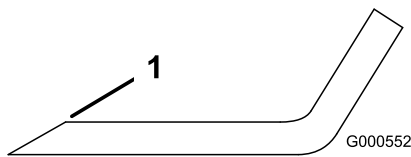

Figure 52
1. Use a file to sharpen the cutting edge at both ends of the blade (Figure 52).
**Note:** If the blade is not balanced, file some metal off the end of the sail area only (Figure 52).